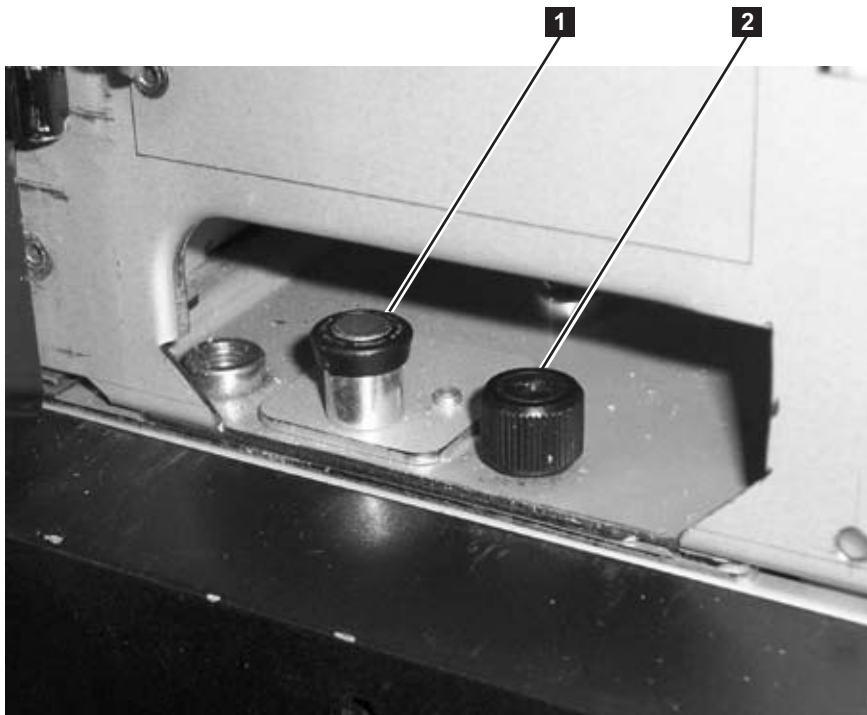
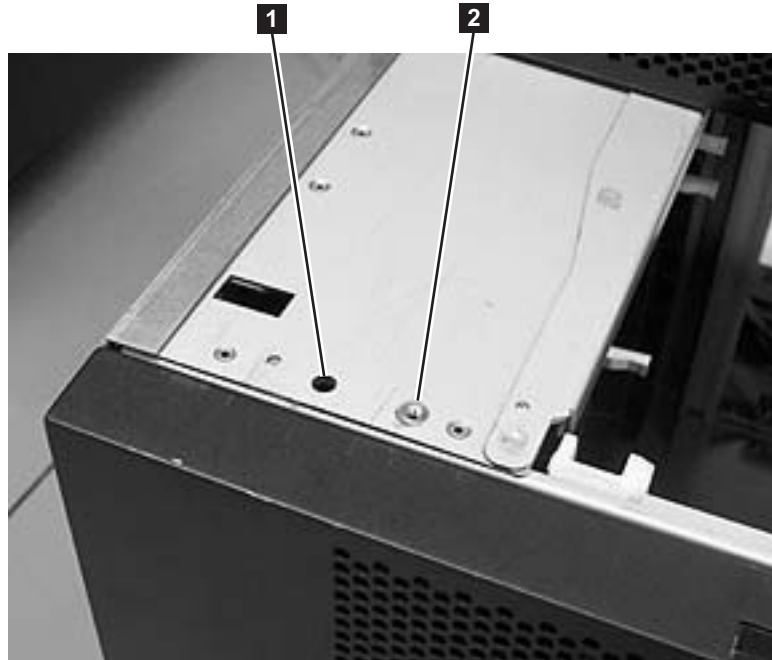

Figure 12-7. Alignment pin and front thumb screw
Figure 12-9. Alignment pin and front thumb screw receptacles
9. Open the I/O Station door, then open the Access Door of the control module to expose the control module alignment pin (**1** in Figure 12-7 on page 12-8) and front thumb screws (**2** in Figure 12-7 on page 12-8) behind the Access Door and behind the I/O Station door.
2. Ensure that the module-to-module alignment pin (**1** in Figure 12-7 on page 12-8) is in the raised position. If necessary, raise the pin and rotate it half a turn to lock it in the raised position.
6. Twist the control module alignment pin (**1** in Figure 12-7 on page 12-8) to unlock it from the up position.
7. Adjust the control module 's position on top of the expansion module until the control module alignment pin drops into the alignment pin receptacle (**1** in Figure 12-9) in the lower expansion module.
8. Tighten the front thumb screw (**2** in Figure 12-7 on page 12-8) to secure the front of the control module to the lower expansion module (**2** in Figure 12-9).
6. Raise the locating pin. See Figure 12-7 on page 12-8.
- b. Lower the locating pin. See Figure 12-7 on page 12-8.